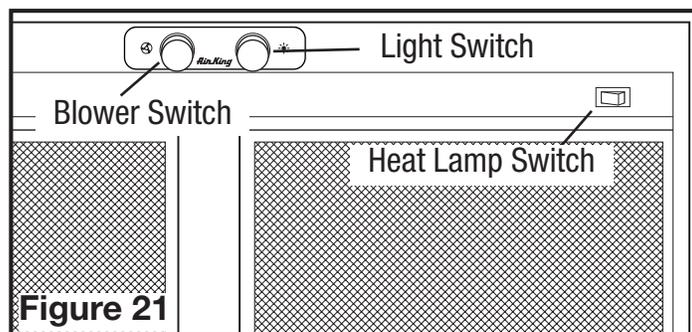

Figure 21
Your Range Hood is equipped with two rotary switches with one controlling the lighting and the other controlling the exhaust fan blower. The light switch is dimable. The fan switch has four positions, Off, High, Medium, and Low (Figure 21).
**NOTE:** On installation where a One (1) speed blower is utilized, all blower control speeds operate at the same speed. On installation where a Two (2) speed blower is utilized, the Medium and High speeds operate at the same speed.
**Heat Lamp Controls:** For models equipped with heat lamps, two On/Off rocker switch are located on the front underside of the hood for independent control of the heat lamps (Figure 21).